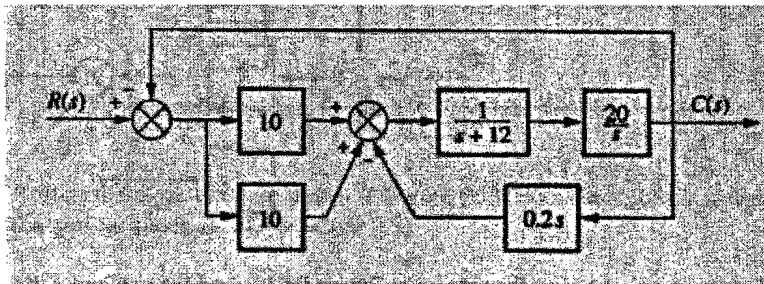
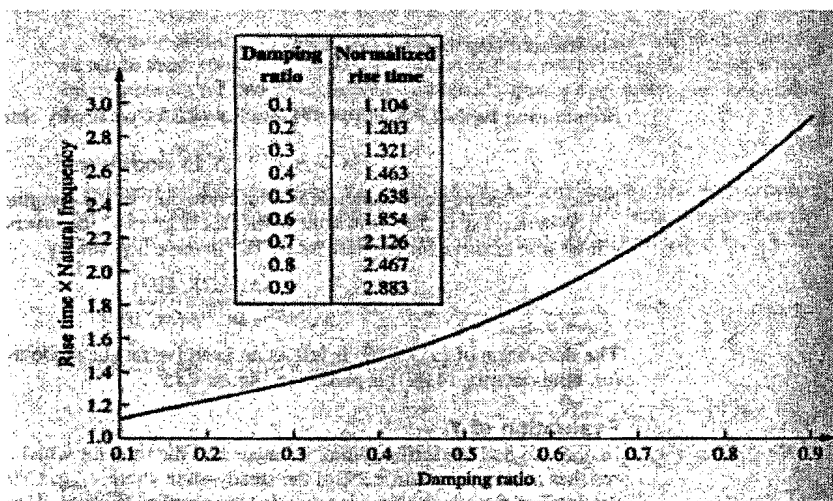

Figure 3.1
Figure 3.2
Find the following for the system shown in Figure 3.1 and 3.2:
- The equivalent single block that represents the transfer function, $T(s) = C(s)/R(s)$ for Figure 3.1. [11 marks]
- The damping ratio, natural frequency, percent overshoot, settling time, peak time, rise time, and damped frequency of oscillation for Figure 3.1. Figure 3.2 is provided below to assist you in your calculation. [14 marks]